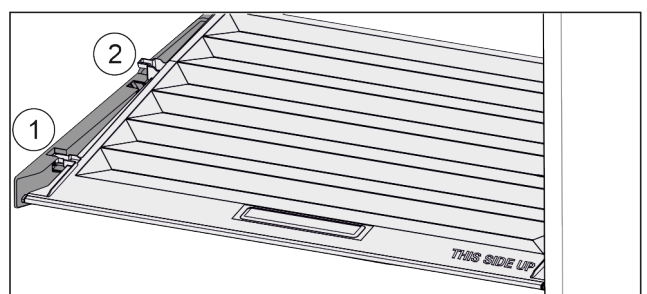

Fig. 93
▶ Pull the lid up at the front to the opening in the retaining parts Fig. 93 (1).
- ▶ Lift from the back and pull it up and out Fig. 93 (2).